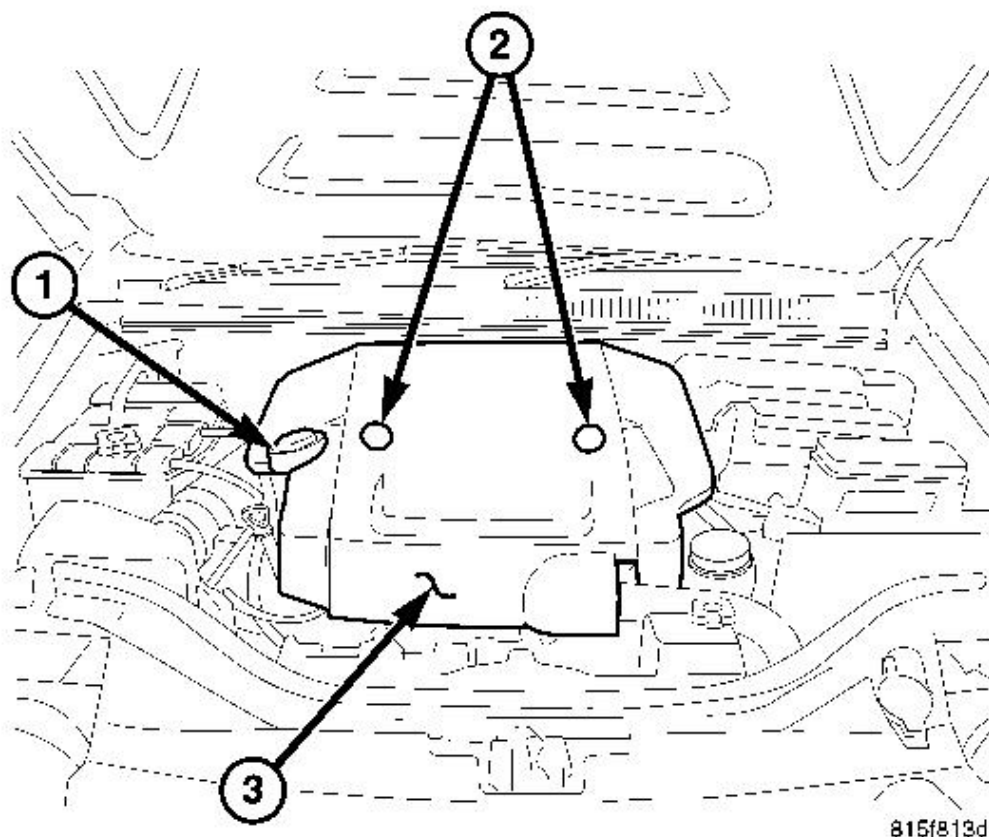

Fig. 178: Oil Filler Cap, Cover Fasteners & Engine Cover
15. Install the engine cover (3) and bracket. See **Fig. 178**.